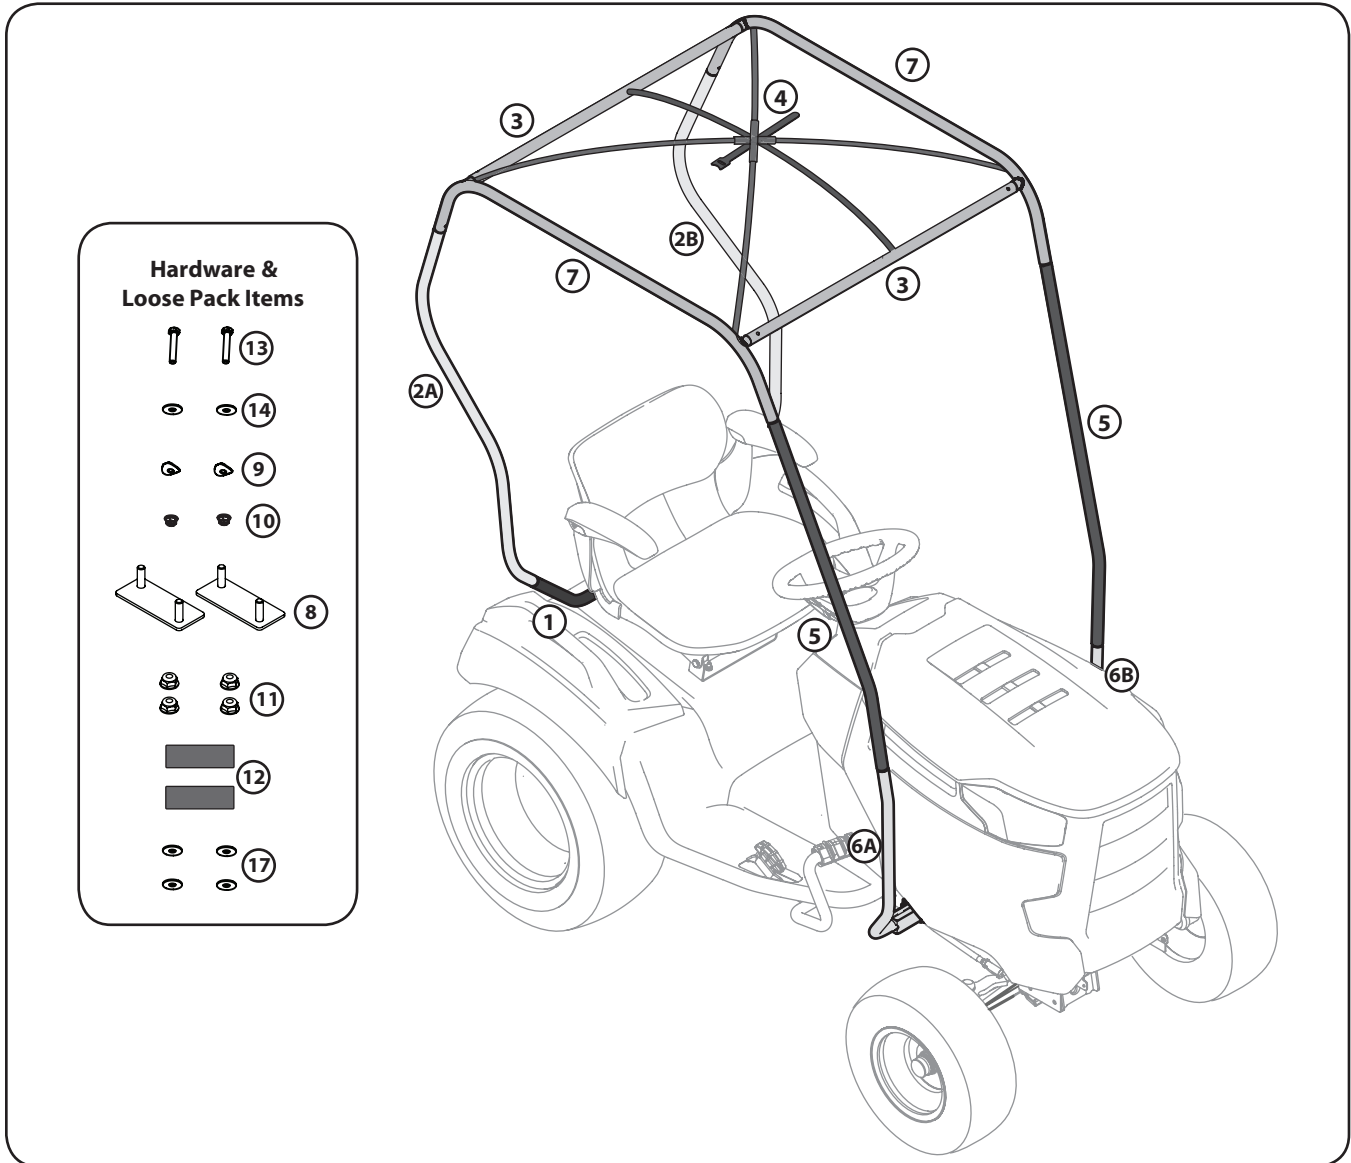

Figure 3-1
6. Assemble the frame of the Snow Cab/Sun Shade by connecting the numbered parts as shown in Figure 3-1.
NOTE: Refer to Figure 3-1 for proper location and assembly of the frame pieces.